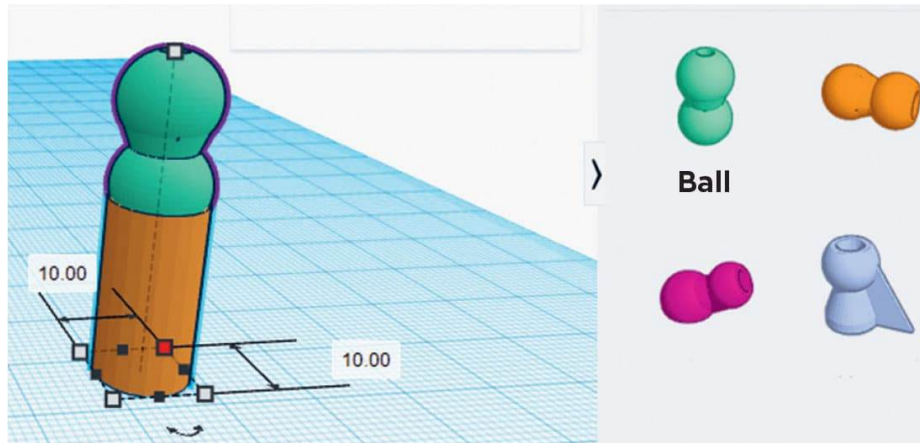

FIG. 3: Add balls to cylinders to create fingers.
3. Create the ball and fingers (proximal phalanx) using the **Ball** tool from the **Connector** toolbox to create the ball of the ball-and-socket joint (fig. 3). We will not resize the ball tool as it is matched to the socket tool we created in step 2.
4. To create the fingers, use the **Cylinder** tool with proportionate lengths for each finger. Match length and width to those of your own finger (fig. 3).